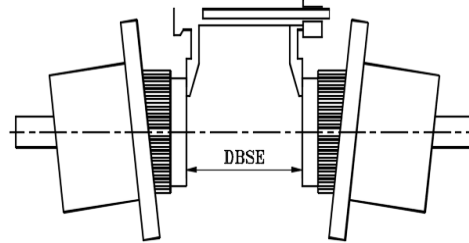

Fig. 5 HUB mounting for spacer coupling
- For spacer type, set the equipment at a distance equal to DBSE by using vernier calliper as shown in fig. 5.